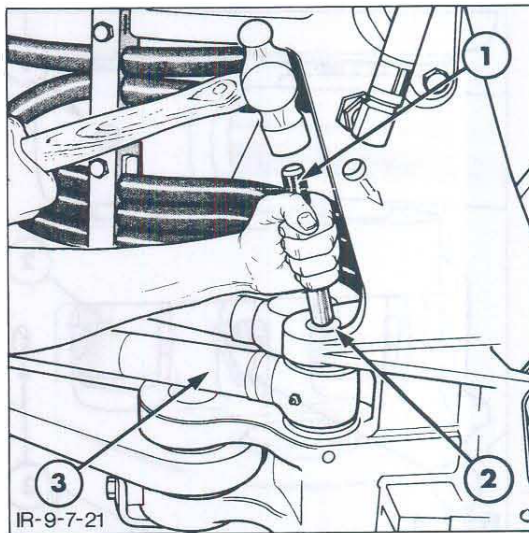

Figure 19
5. Using a suitable drift, drive out the rod end pivot pin, Figure 19.